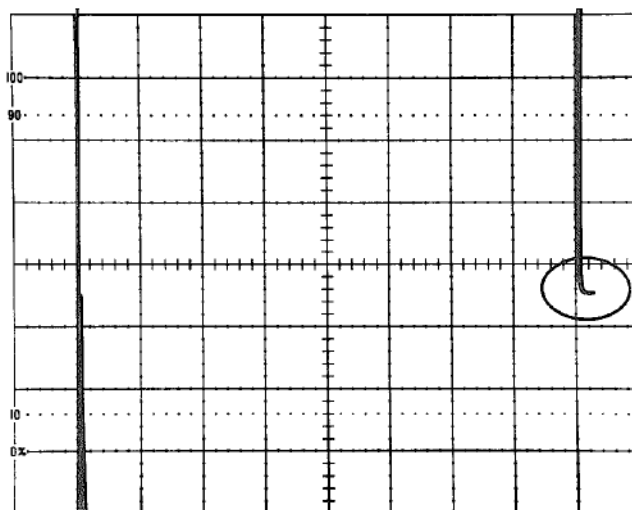

Fig. 4-1. Waveform showing correct high-frequency compensation of horizontal amplifier. Circle surrounds compensated portion of waveform.
l. ADJUST—Horizontal Amplifier high-frequency compensation adjustments R4385, C4385, C4391, and C4374 (see Fig. 6-34) for optimum square-wave response. Check the leading edge of the pulse (lower right corner) for aberrations not to exceed +1.2 division with total peak-to-peak aberrations not to exceed 1.2 division. See Fig. 4-1 for a typical response waveform.